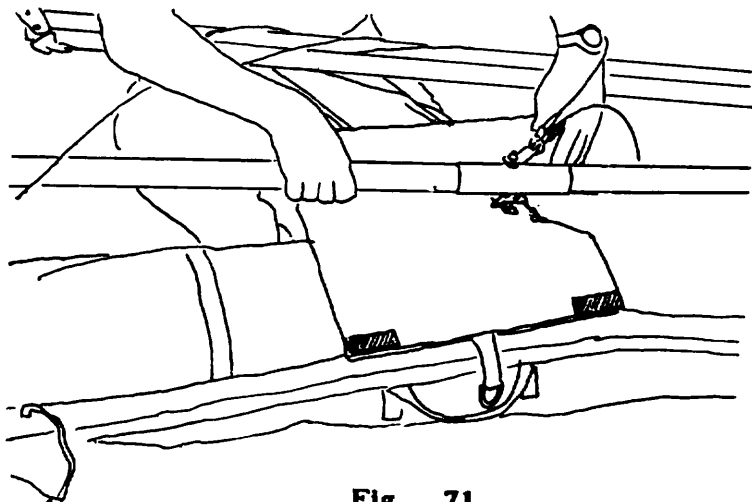
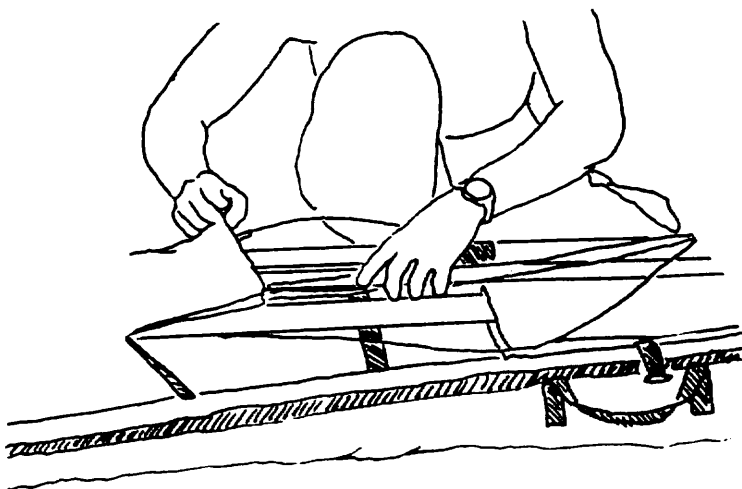

Fig 71
Fig 72
12) Insert the pad underneath the keel, (Fig 71) and between the keel and control bar and secure the velcro tabs. Install the protective bag over the rear end of the control bar. (Fig 72)